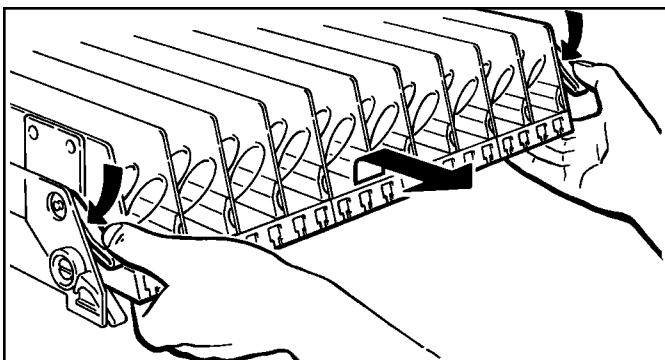

Figure 1. Moving shelf to loading position
3. **Loading Snack Shelves.** Open door to full open position, push down on white and gray plastic lock levers (Figure 1.) on right side panel by shelf to unlock shelf, holding lever down. Grasp the shelf slightly and pull forward until shelf reaches its stop. The shelves tilt down (do not drop) to make loading easier. **Only one product shelf should be in the loading position at a time.** When returning a shelf, be sure the shelf is in its full home or vend position. Begin loading with the top shelf. Move it to the loading position. The height spacing for items is greatest in this shelf and the tallest bagged items should be placed there. Soft items, such as pastry, pies, etc., should be placed in the lowest snack shelf, making the drop distance as short as possible.